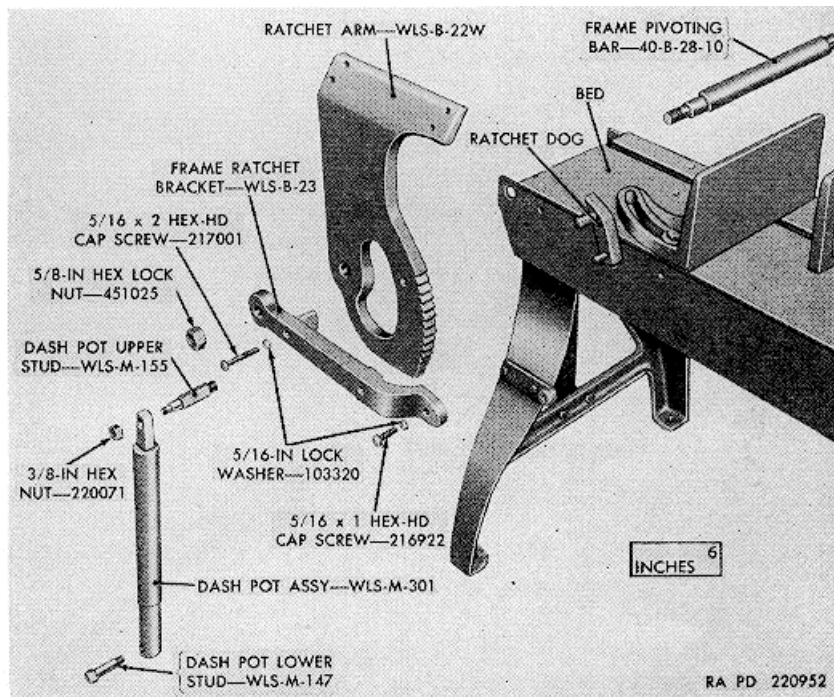

Figure 39. Ratchet arm and associated parts-exploded view.
**67. Removal** (fig. 39)
**71. Installation (fig. 39)**